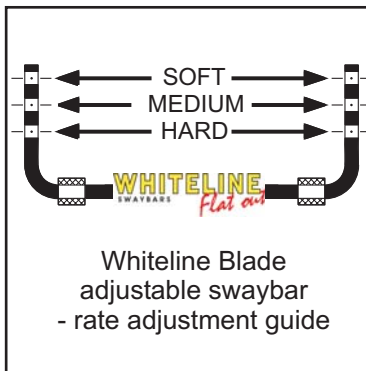

Figure 1.
*Note: Refer to figure 1 for swaybar adjustment guide.*